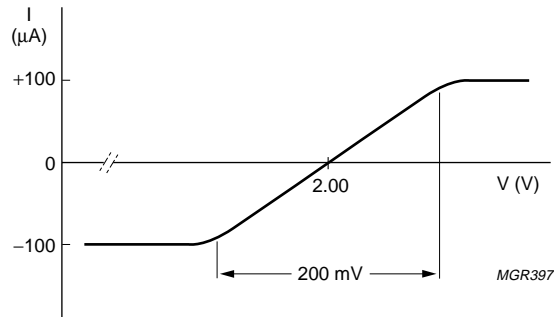
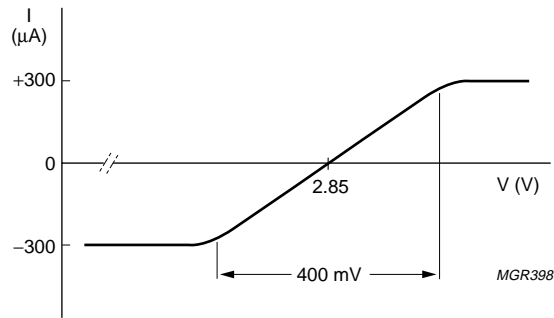

Fig.9 Typical clamp current for pin CPCDS.
Fig.10 Typical clamp current for pins IND and INP.
- More information about CDS related signals is available in the following figures: The clamp current for pin CPCDS is given in Fig. 9, clamp current for pins IND and INP in Fig 10 and for clamp current for pin V_{ref} in Fig 11. The CDS output amplitude is shown in Fig. 14